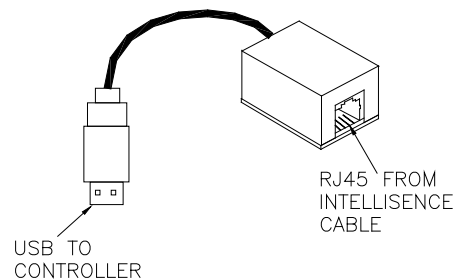

Fig. 8 USB to RJ45 Adapter
- Remember that if you have a CAT 5E cable, a **USB to RJ45 Adapter** (Fig. 8) must be used to convert the cable to USB.